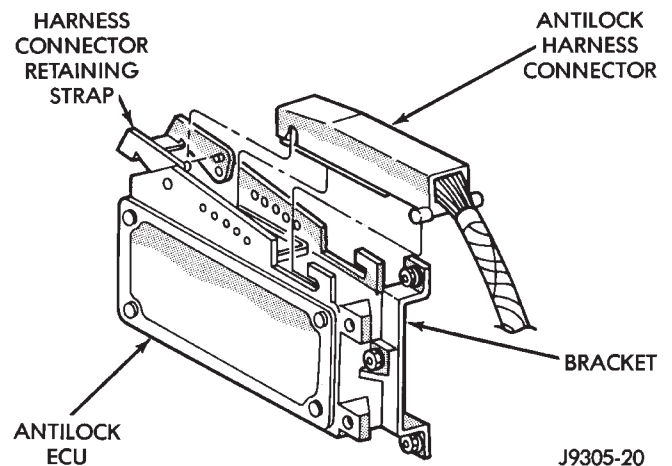

Fig. 14 ECU Harness Connector Attachment
(4) Lift ECU out of engine compartment for access to harness connector.
(5) Release strap securing harness connector to ECU pin terminals (Fig. 14).
(6) Disconnect and separate harness connector from ECU as follows: Tilt harness connector upward